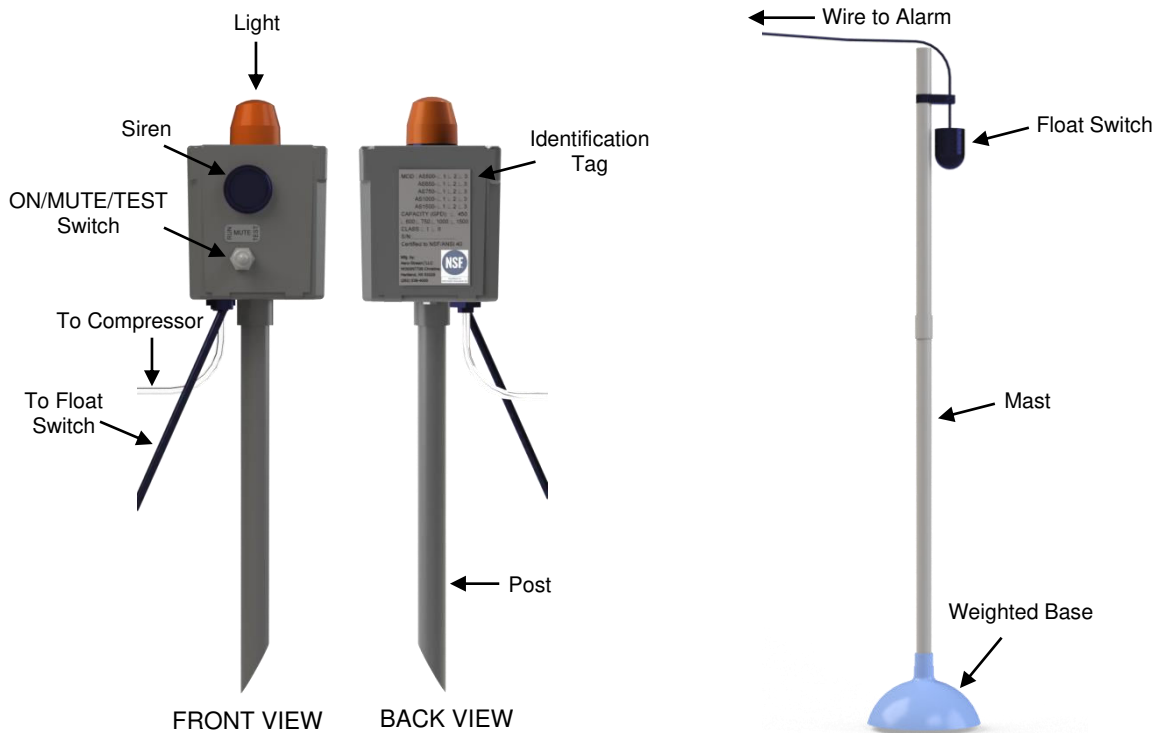

Figure 29, Alarm and Float Switch Overview
2. Unplug the float from the alarm box. See Figure 29. If the light goes out, proceed to step 5. If the light does not go out, proceed to step 3.